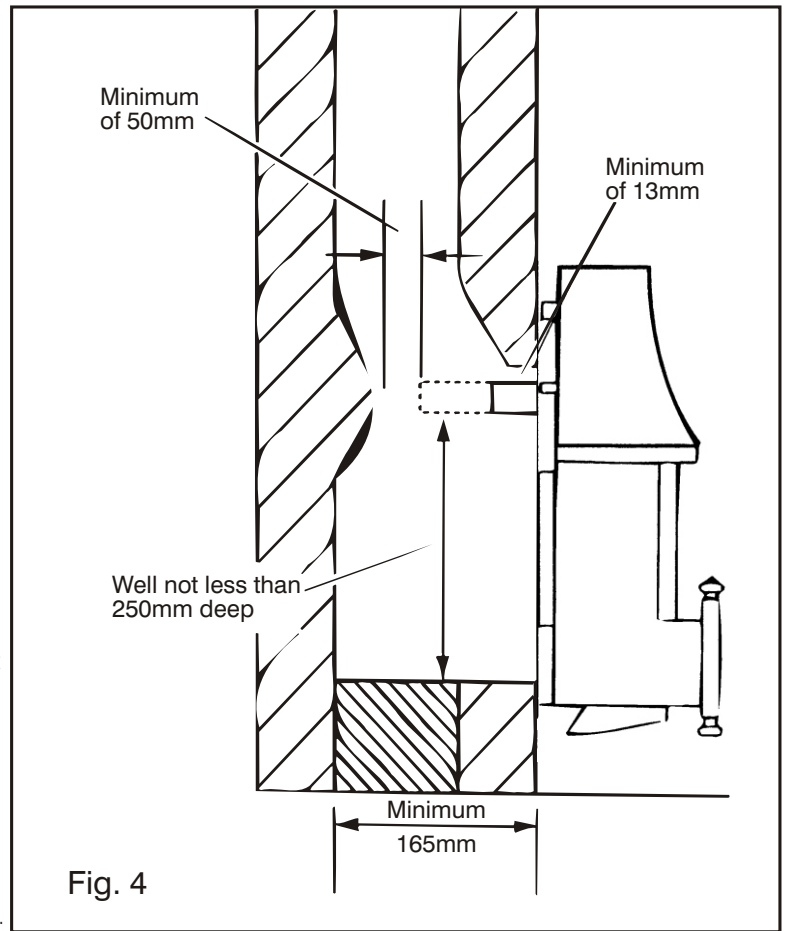

Fig. 4
#### 2.2.1 Fireplace Dimensions (Fig. 4)
- (d) The top of the spigot must be at least 13mm (1/2in) below the top edge of the fireplace opening. (See Fig. 4).